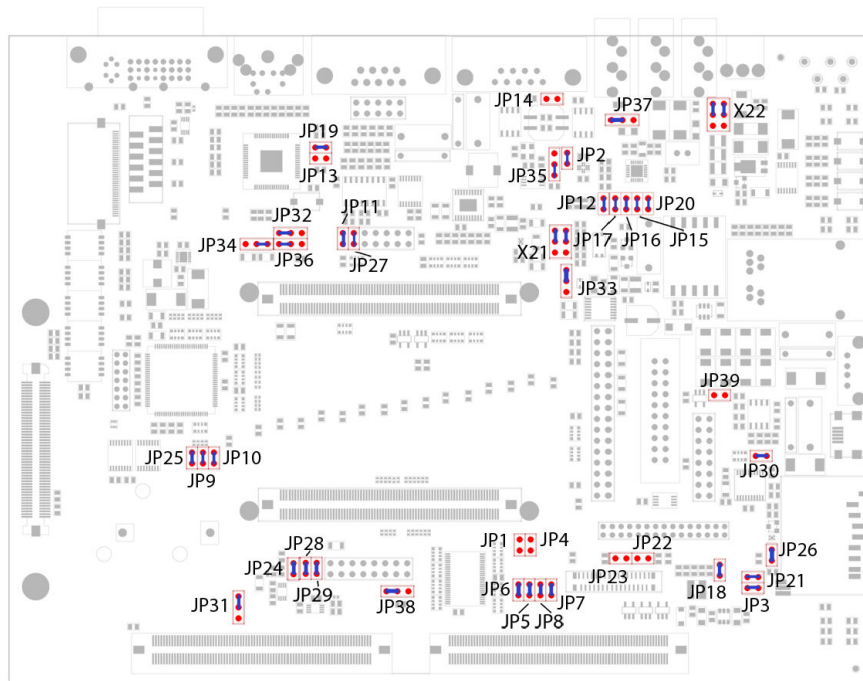

Fig. 18-1. Jumper Locations and Default Settings
The phyCORE-AM3517 Carrier Board comes pre-configured with 39 removable jumpers (JP). The jumpers allow the user flexibility in rerouting a limited number of signals for development constraint purposes. Table 18-1 below lists the 39 removable jumpers, their default positions, and their functions in each position. Figure 18-2 depicts the jumper pad numbering scheme for reference when altering jumper settings on the development board. Note that pin 1 is always marked by a cut corner on the silk-screen on the PCB and with a green indicator in the jumper location diagrams that follow. Figure 18-1 provides a detailed view of the phyCORE-AM3517 Carrier Board jumpers and their default settings.